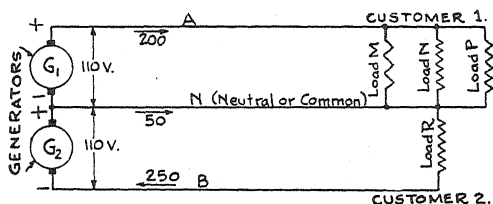

FIG. 119. Edison three-wire system.
Figure 119. Thus, by using the so-called "Edison" three-wire system, a power company can save 25 per cent of all its wire and insulators, and still get the same results. Such a saving is not to be overlooked.
- between *A* and *N*, the voltage is 110 v. (Figure 119),